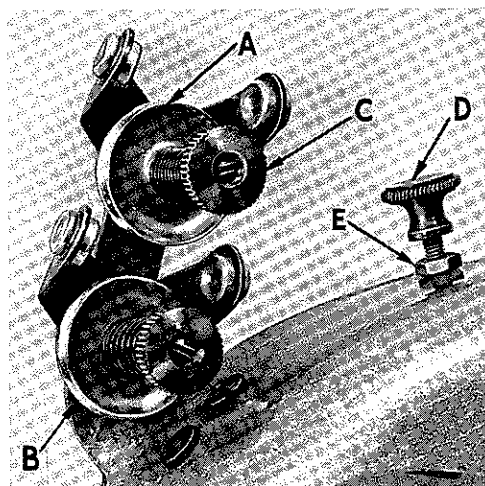

Fig. 9
The needle and looper thread tensions are mounted on top of the machine (Fig. 9). The upper tension (A) controls the looper thread and the lower tension (B) controls the needle thread.
The pressure on the presser foot is regulated by means of the knurled adjusting screw (D, Fig. 9).